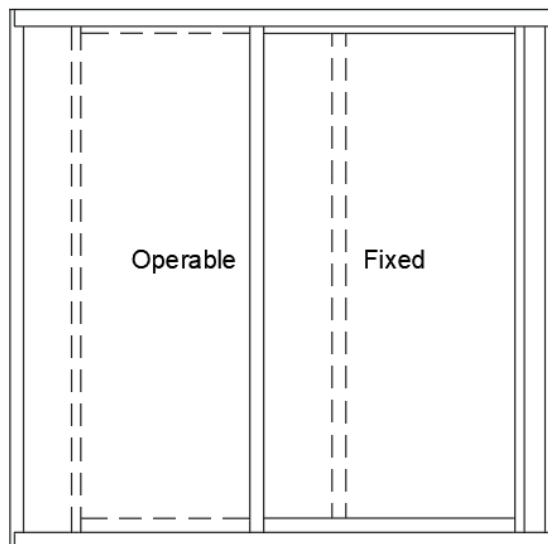
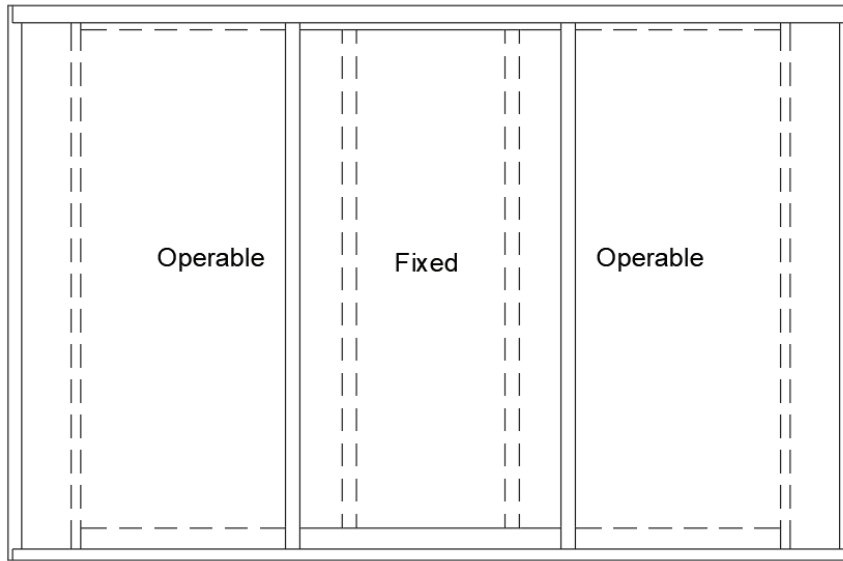

FIGURE 10
FIGURE 11
c. Install the fixed panel so that it overlaps the operable panel interlock(s). See figure 10 for OX or XO and figure 11 for XOX viewed from the exterior.